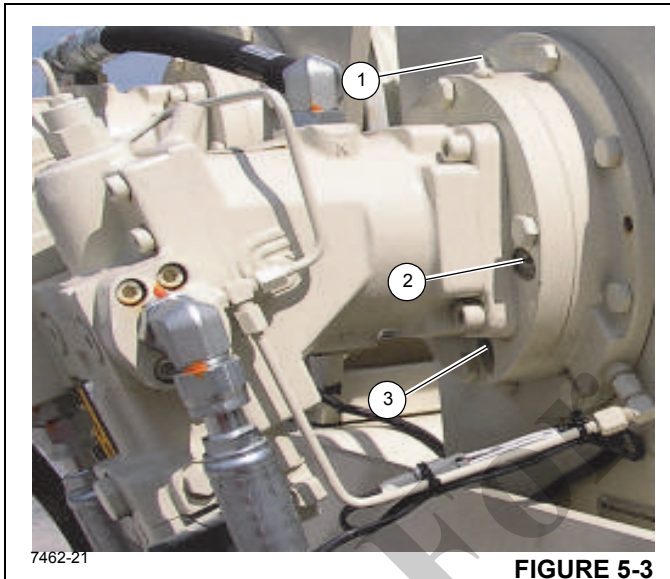

FIGURE 5-3
To check the hoist brake oil, remove the inspection plug (2, Figure 5-3) and visually inspect the oil level. The fluid should be level with the bottom of the inspection hole. If more fluid is needed, add through the brake oil vent and fill plug hole until oil is at the bottom level of the inspection hole (1).
To drain and add new oil, remove the drain plug (3, Figure 5-3), inspection plug (2) and vent plug (1) and drain the hydraulic oil. Reinstall drain plug (3) and add fluid at the inspection hole (2), until oil is at the bottom level of the inspection hole. Install the inspection plug and the oil vent (1) and the inspection plug (2). See *Lubrication Points*, page 5-3. The hoist brake fill capacity is 0.23 liter (.25 quart).
The oil in the gearbox and brake sections is recommended to be changed after first 50 hours of operation and every 1000 hours or 6 months of usage. Gearbox oil is drained by removing the drain plug and vent (See Figure 5-3).